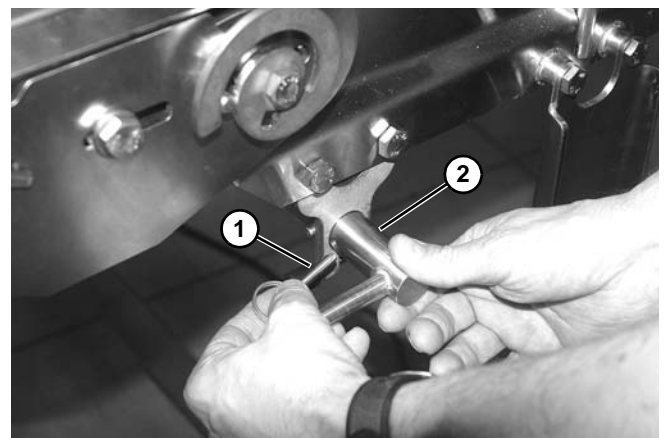

Figure 70
3. Remove pull pin (**Figure 70, item 1**) from scraper shaft (**Figure 70, item 2**).